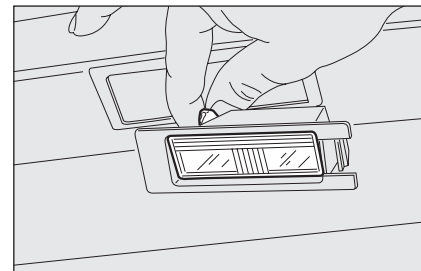

fig. 28
- ☐ change the bulb **fig. 28** releasing it from the side contacts and making sure the new bulb is correctly fastened between the contacts;